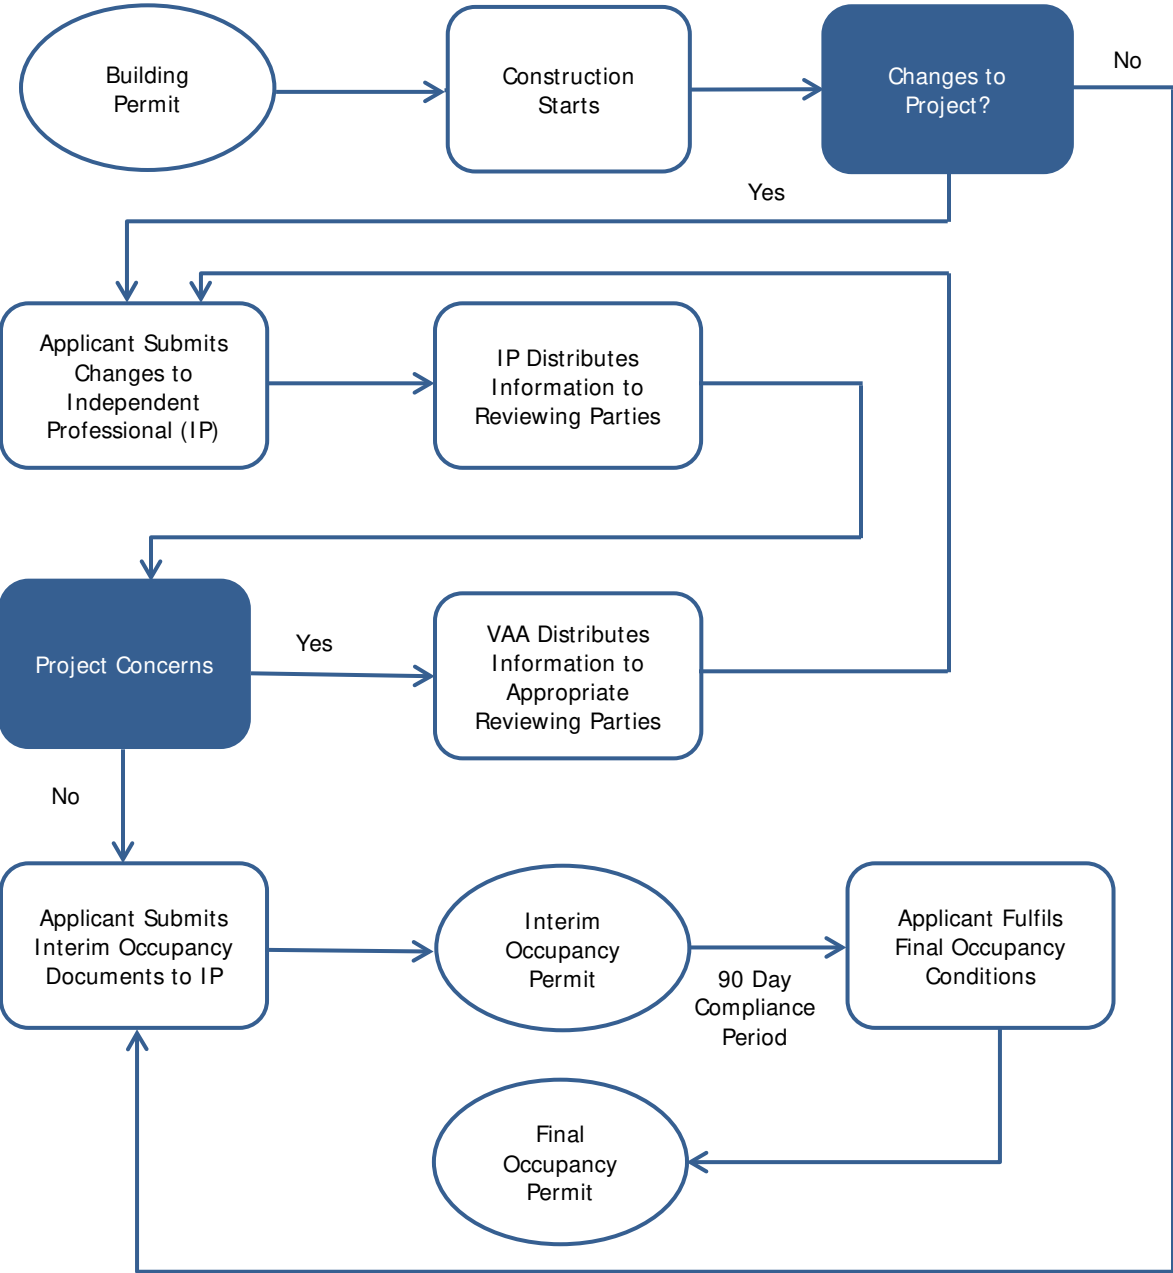

Figure 2 YYJ - Victoria Airport Authority Occupancy Permit Process
4. The Applicant must submit documentation of any changes made to the design during the course of construction. Such changes cannot be implemented on site until approved by VAA. Each proposed change will be reviewed by the IP and if necessary, by VAA as outlined in Figure 2 of this document. The Applicant will be notified if an amendment to the approved **Building Permit** is necessary. This will apply if the proposed change consists of a material alteration to the approved drawings with respect to such life safety items as fire separations, egress, fire detection and suppression.
No facility, **building**, tenancy or other alteration that is the subject of an approved **Building Permit** is permitted to be used or occupied unless an approved Occupancy/Use Permit is issued by VAA for the project. Refer to Figure 2 which illustrates the construction and occupancy process. An application for Occupancy/Use Permit must be made by the Applicant pursuant to the following:
4. Refer to the attached Figure 2, Occupancy Permit Process flowchart in Section 1.0 of this guideline.